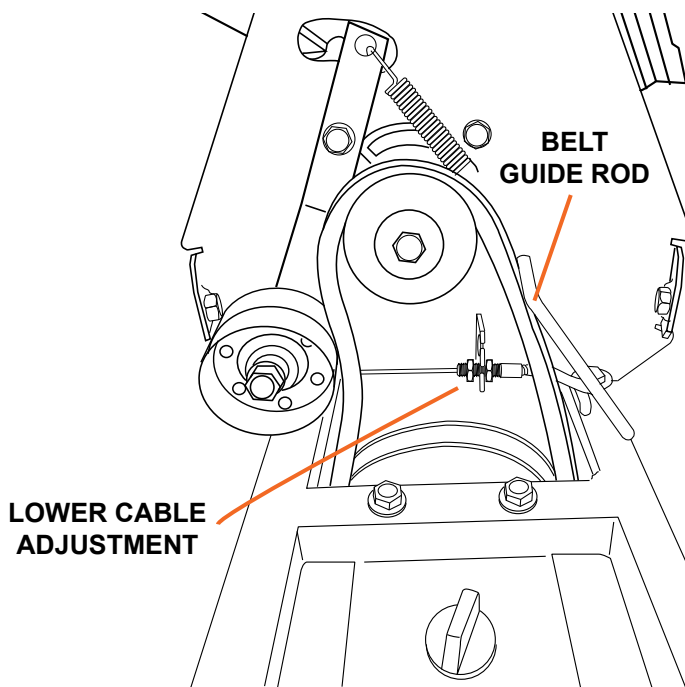

Figure 5
1. Remove cover from rear of engine to expose belt. Check adjustment of belt guide rod. Rod should be just touching the belt (see Figure 5).